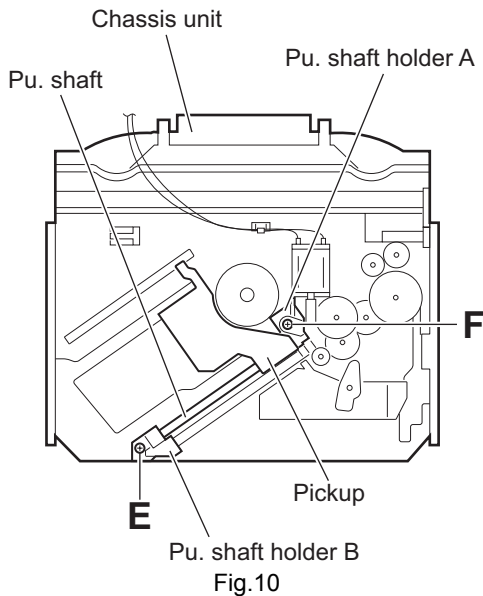

Fig.10
### 3.2.8 Reattaching the pickup (See Figs.10 to 13)
- (4) Set the section **m** of the pickup to the rail of the chassis unit at first and attach the pickup to the chassis unit with the screw **F** as before. (See Figs.10 and 13.)
- (5) Attach the pu. shaft to the pickup as before. (See Fig.10.)
- (6) Attach the pu. shaft holder B to the chassis unit with the screw **E** as before. (See Fig.10.)